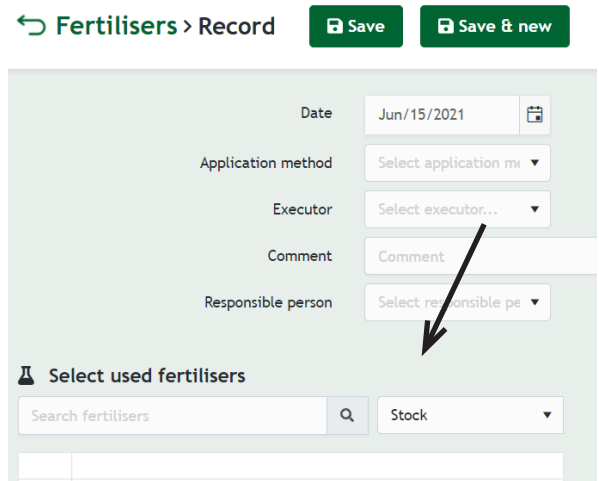

Figure 5
2. Click on '+ Record'. A screen will open as shown in figure 5.